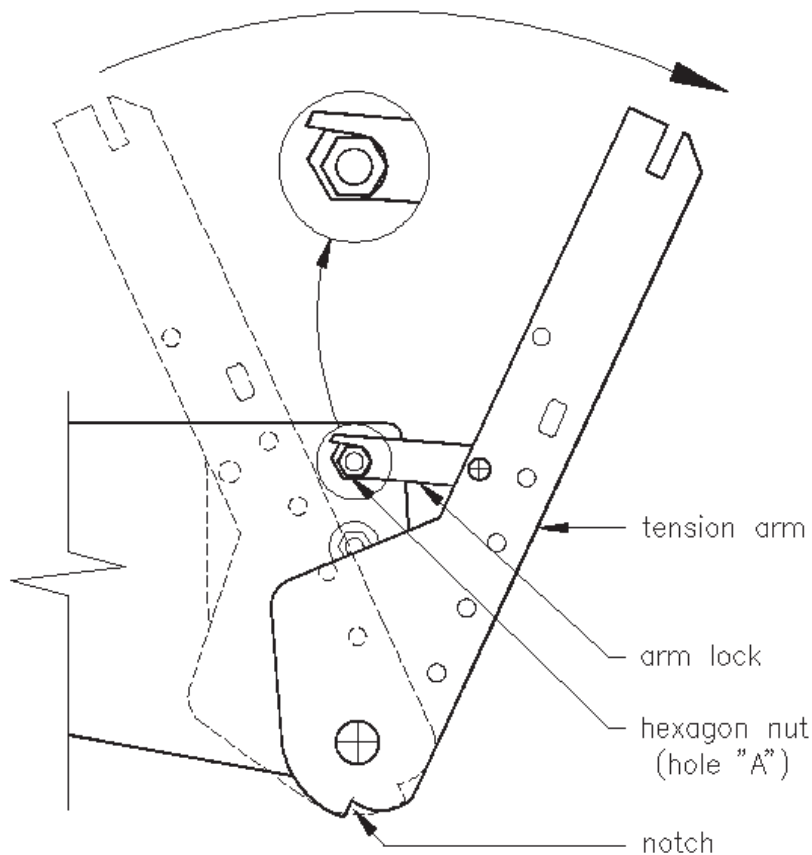

Figure 11. Setting the Tension Arm. Enlarged detail shows the Arm set securely against the hexagon nut.
- Brace one foot against the front edge of the SIDE PANEL and, using the 13" length of PVC tubing provided, lever the Lift Mechanism Tension Arm out and down until you can secure the Arm Lock to the hexagon nut you installed at Hole "A". See **Figure 11** (previous page). Be sure that the Arm Lock is secured against the hexagon nut before releasing the tension on the pipe lever. Repeat the operation on the other side.